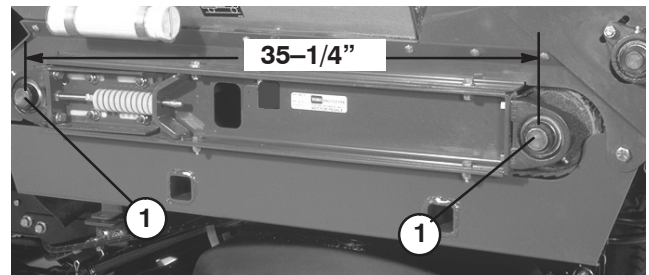

Figure 21
3. Check to insure that the center distance between conveyor belt roller shafts (Fig. 21), on each side of machine, are equal distance (approximately 35-1/4").